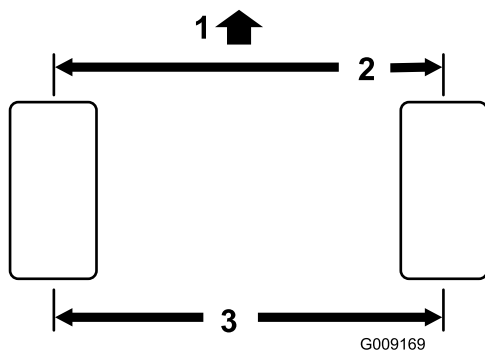

Figure 59
1. Measure the center-to-center distance (at axle height) at the front and rear of the steering tires (Figure 59).